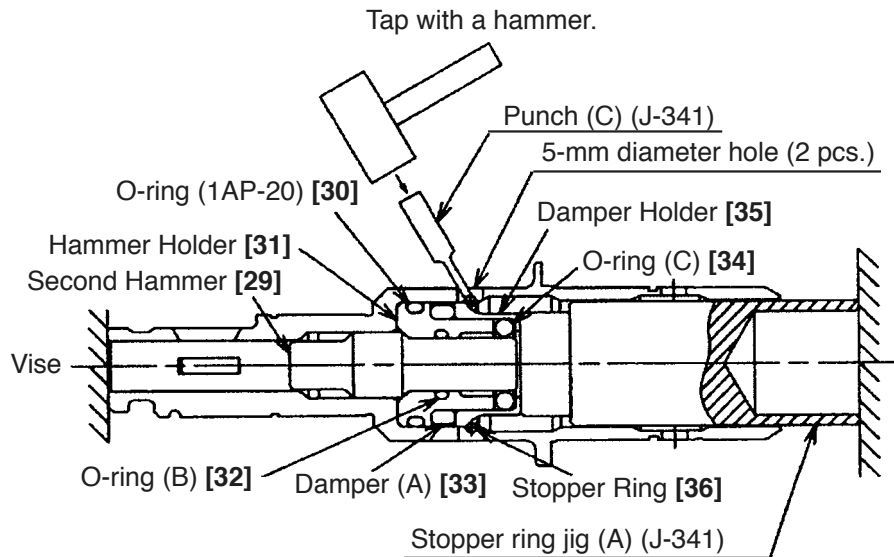

Fig. 19
(5) Removal of the cylinder and the second hammer
Remove the Stopper Ring [36] from the inside diameter portion of the Cylinder [17]. Then the Second Hammer [29], O-ring (1AP-20) [30], Hammer Holder [31], O-ring (B) [32], Damper (A) [33], O-ring (C) [34] and Damper Holder [35] can be removed from the Cylinder [17]. As shown in Fig. 19, insert the no-hole side of stopper ring jig (A) (J-341) into the Cylinder [17] until it contacts the end surface of the Damper Holder [35]. Hold the Cylinder [17] and the end surface of stopper ring jig (A) (J-341) with a vise, and compress Damper (A) [33] (it moves a little when the Stopper Ring [36] is pressed with punch (C) (J-341)). Insert punch (C) (J-341) into the 5-mm diameter holes (2 places) in the Cylinder [17] and tap the outside of the Stopper Ring [36] until the Stopper Ring [36] cannot be seen from the 5-mm diameter holes (2 places) to remove the Stopper Ring [36] from the groove of the inside diameter portion of the Cylinder [17]. Then remove the Cylinder [17] from the vise and pull out the Stopper Ring [36] from the inside diameter portion of the Cylinder [17] with ring puller jig (B) (J-341) being careful not to pop out the Stopper Ring [36]. At reassembly, replace the Stopper Ring [36] with new one as the removed Stopper Ring [36] is deformed. To prevent idle hammering, also replace O-ring (C) [34] with new one at reassembly.